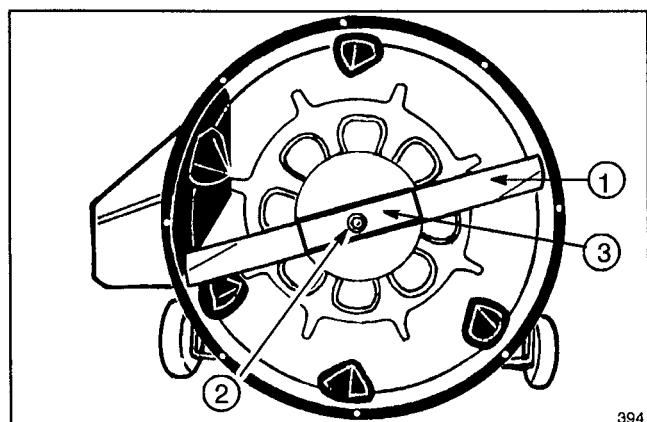

Figure 24
6. Grasp end of blade using a rag or thickly padded glove; then remove blade bolt, curved washer, blade stiffener and blade (Fig. 24).
9. In sequence, install blade, blade stiffener, curved washer and blade bolt (Fig. 24). The concave side of the curved washer must point toward the blade. Tighten blade bolt to 45-60 ft-lb (61-81 N·m).
6. Since rider is tipped on end, check condition of blade (Fig. 24).